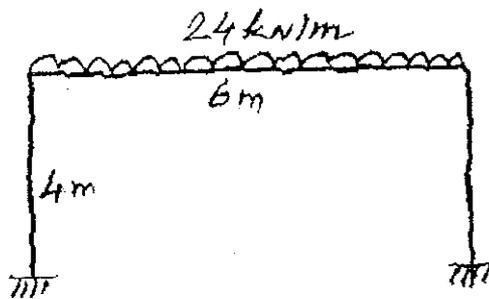

Fig. 4
- (b) Analyse the portal frame shown in Fig. 4 by matrix stiffness method and hence draw the BMD. Use the property of symmetry to reduce the number of unknown displacements.